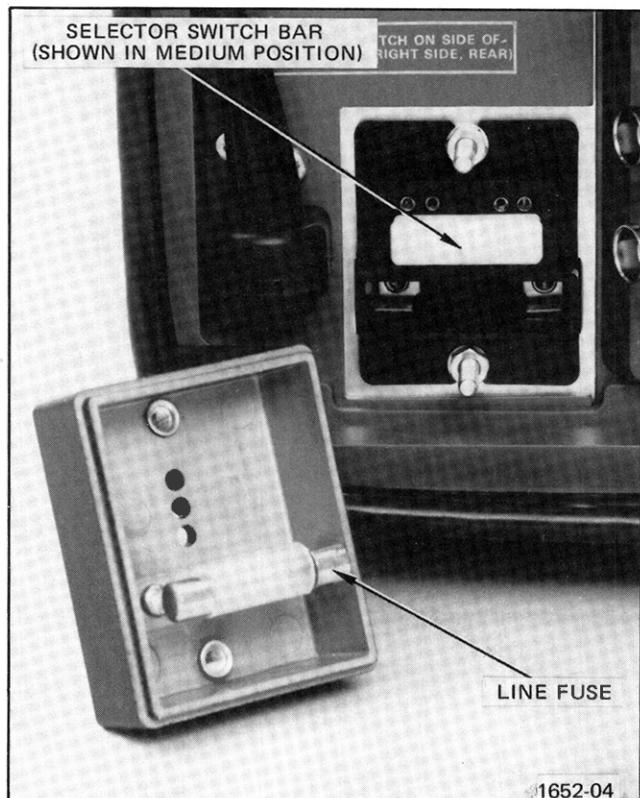

Fig. 2-1. Regulating range selector and line fuse.
3. Pull out the range selector switch bar (see Fig. 2-1). Select a range from Table 2-1 that is centered about the average line voltage. Slide the bar to the desired position and plug it in. Push the cover on and tighten the screws.
51. LINE FUSE HOLDER—Contains the line fuse and the regulating range selector. See Fig. 2-1 for change information.